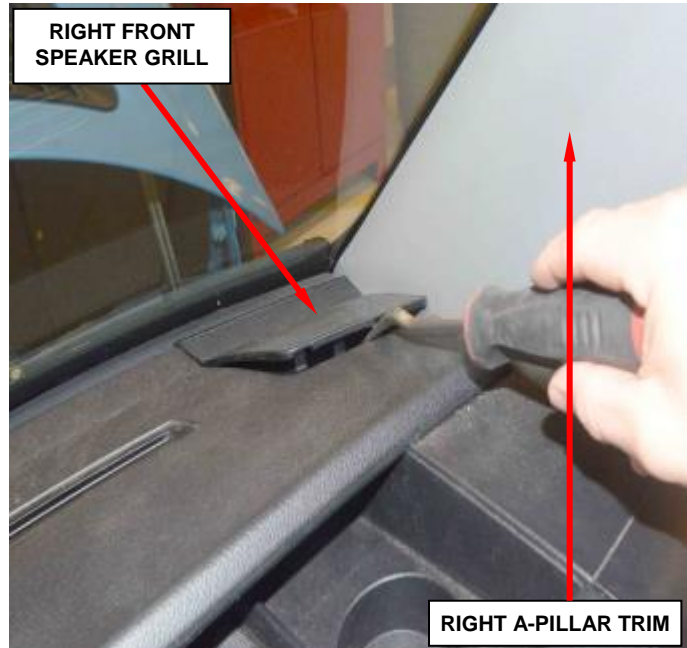

Figure 5 – Right Front Speaker Grill
- 7. Remove the right front speaker grill (Figure 5).
37. Install the right front speaker grill (Figure 5).